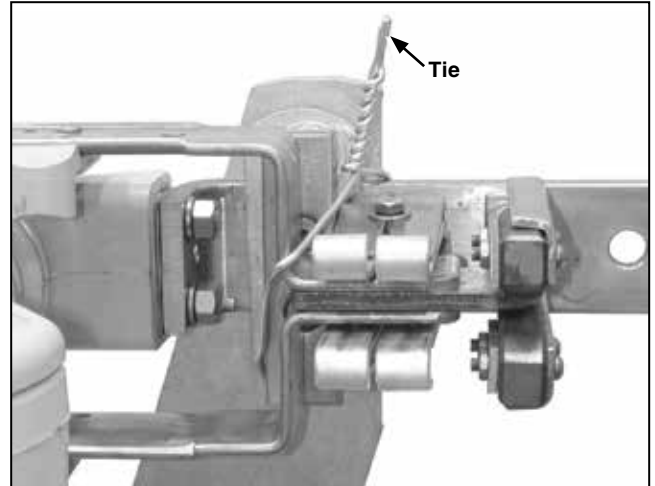

Figure 26. Removing the tie at the stationary main contact assembly.
STEP 24. Remove the ties holding the switch blades to their stationary main contact assemblies. See Figure 26.